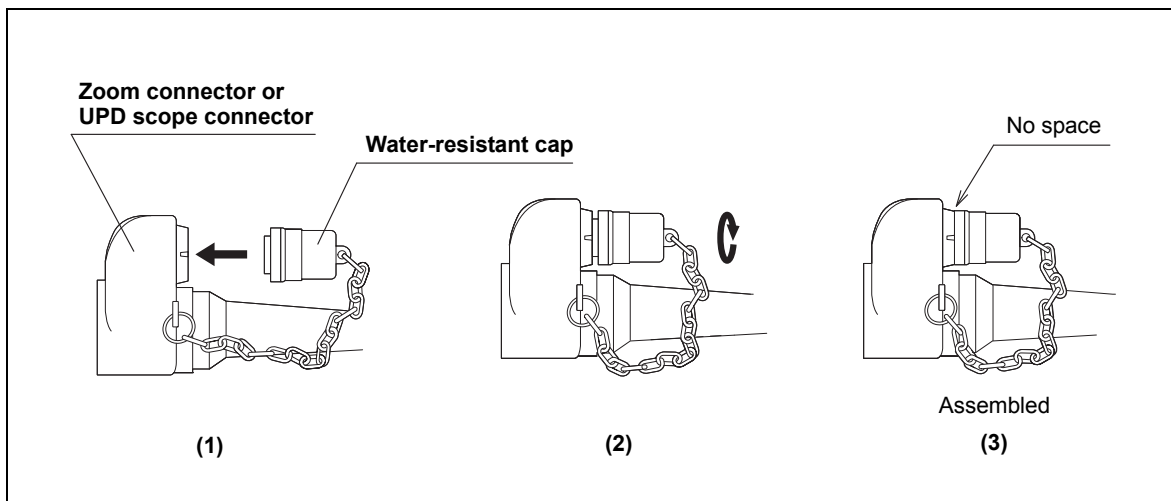

Figure 3.18
2. Push the water-resistant cap straight onto the zoom connector and turn it clockwise (see Figure 3.18 (1) and (2)).
3. Confirm that there is no gap between the zoom connector and the water-resistant cap (see Figure 3.18 (3)).
2. Push the water-resistant cap straight onto the UPD scope connector and turn it clockwise (see Figure 3.18 (1) and (2)).
3. Confirm that there is no gap between the UPD scope connector and the water-resistant cap (see Figure 3.18 (3)).